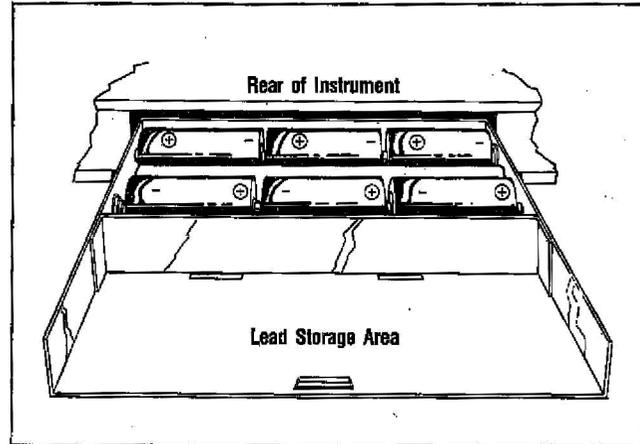

Fig. 3. Battery Installation.
5. Install six "C"-cell batteries noting correct polarity, as shown in Fig. 3.